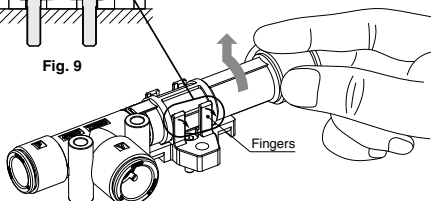

Fig. 8
- 4) To remove the body from the bracket, unclip the fingers (2 pcs.) on one side and pull the ejector upward while rotating the adapter. If the ejector is pulled upward without first unclipping the fingers, it may damage the bracket (Fig. 8, 9).